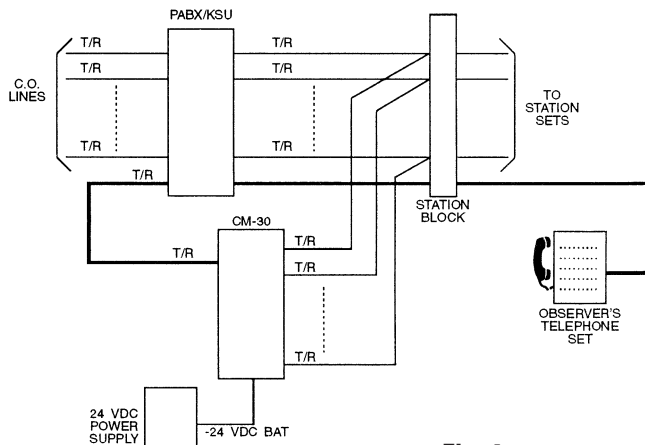

Fig. 4
- 2.07 **Central Office/Trunk Ports** may also be used to access the CM-30. By restricting access to that particular trunk, only designated stations will be allowed to monitor. See figure 4.